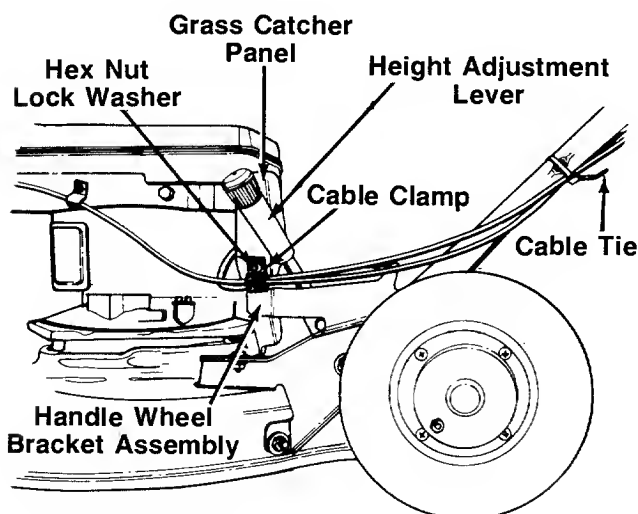

FIGURE 9.—Model 836R
2. Remove the top hex nut and lock washer on the side of the left handle wheel bracket assembly. Attach the cable clamp as shown in figure 9. Secure with lock washer and hex nut.